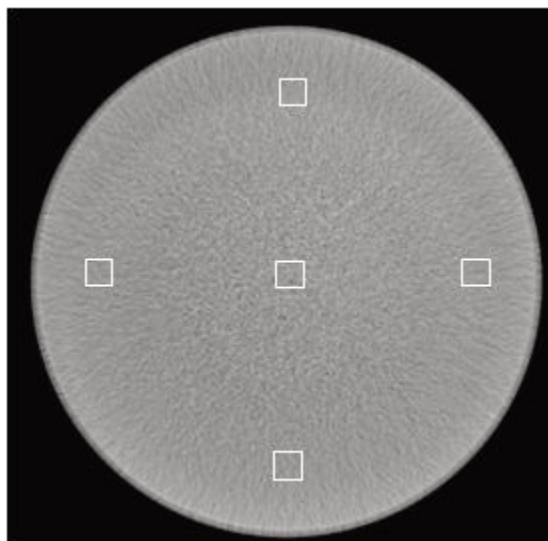

Figure 17.5-1: ROIs for field uniformity
4. Place an ROI of approximately 8 mm by 8 mm at the center of the image and the 4 edge positions as shown in Figure 17.5-1. For the edge ROIs, place the center of the ROI at approximately 75% of the radius.